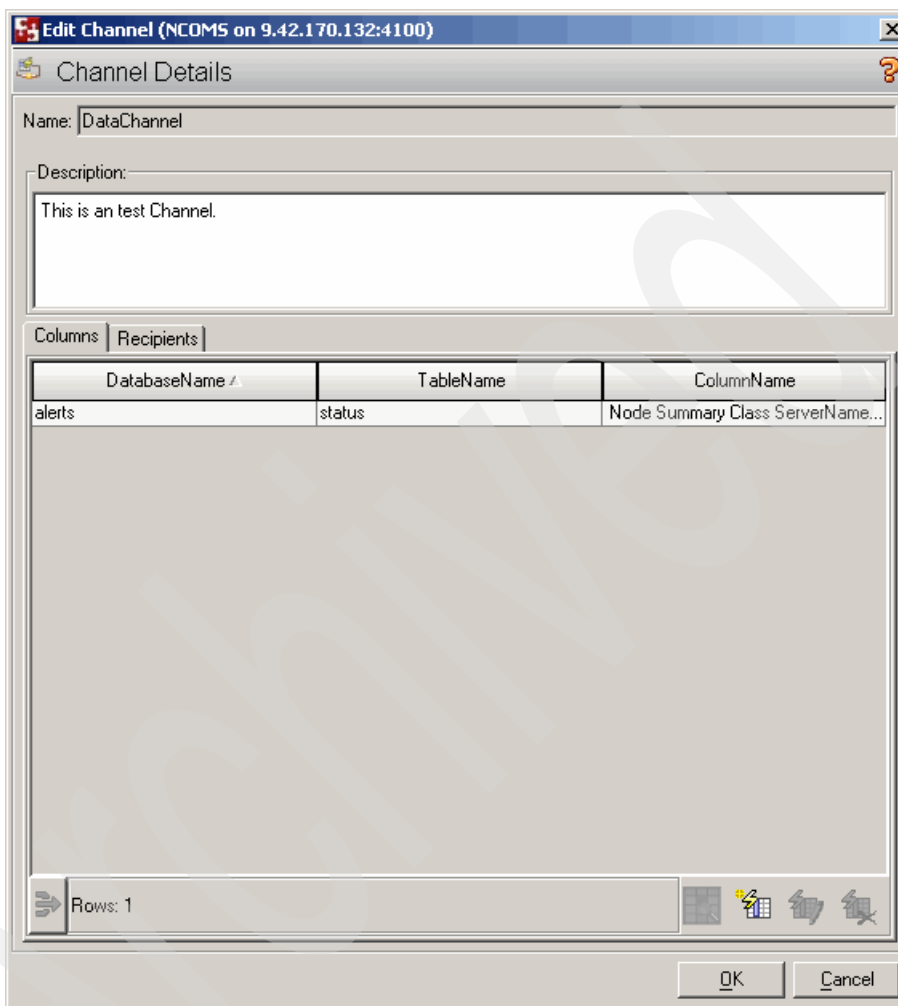

Figure 4-59 Channel Details tab
- c. Within the Channel Details window, add a name for the channel, as shown in Figure 4-59.
- g. When complete, click the **OK** button on the Channel Details window shown in Figure 4-59 on page 166.